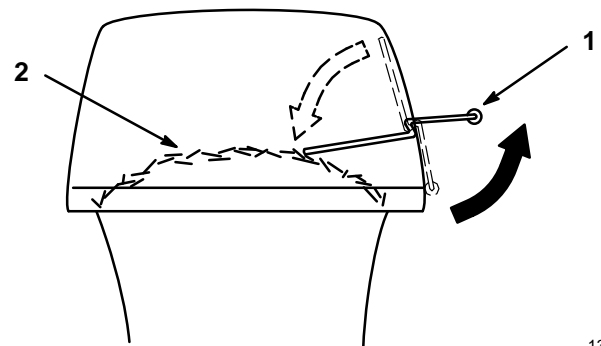

Figure 41
2. To check if both bags are full, periodically raise the full bag tester handle (Fig. 41). If you feel resistance as you raise the handle, the bags must be emptied because they are full (Fig. 41).